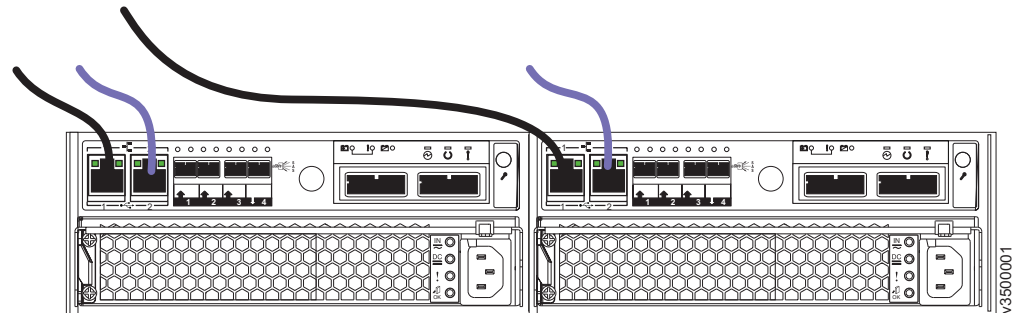

Figure 27. Connecting the Ethernet cables
1. Connect Ethernet port 1 on each node canister to the same Ethernet switch, as shown in Figure 27.
2. Optionally, connect Ethernet port 2 on each node canister to the same Ethernet switch. (Figure 27 shows these optional cables in a lighter color.)